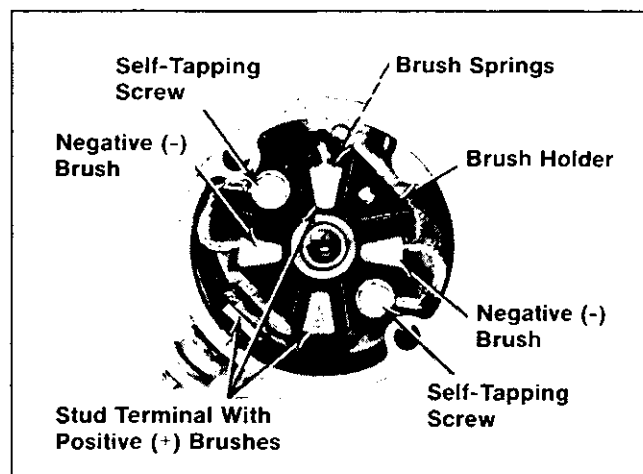
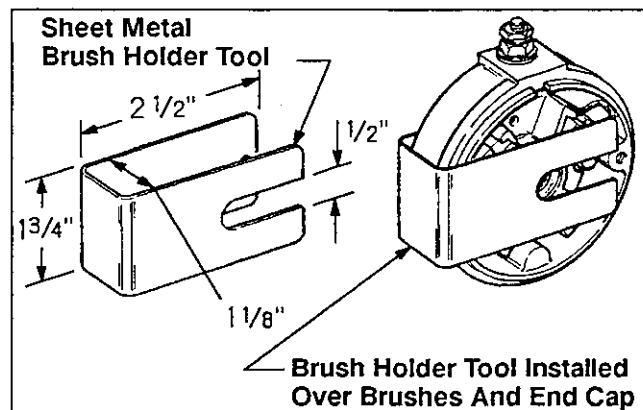

Figure 8-8. Commutator End Cap With Brushes.
Figure 8-9. Brush Holder Tool.
- Remove the brush springs from the pockets in brush holder. See Figure 8-8.
NOTE: Use a brush holder tool to keep the brushes in the pockets. A brush holder tool can easily be made from thin sheet metal. See Figure 8-9.
Replacing brushes in the solenoid shift starts is exactly the same procedure as explained in the previous sub-section. Refer to page 8.12, figure 8-8, figure 8-9.